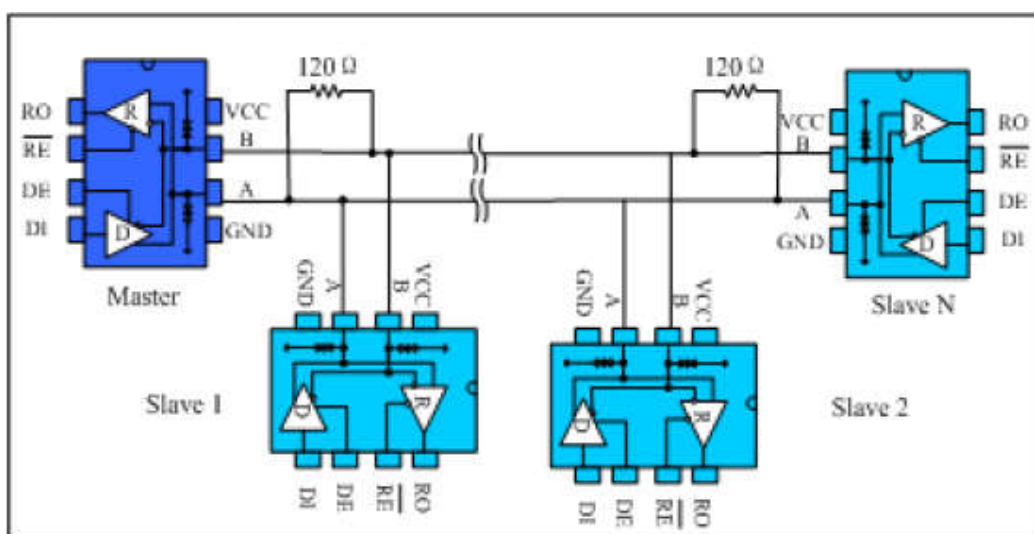

Fig. 9 Bus-type RS485 half-duplex communication network
4.1 Bus networking: The MAX3485E RS485 transceiver is designed for bidirectional data communication on multi-point bus transmission lines. Figure 9 shows a typical network application circuit. These devices can also be used as linear repeaters with cables longer than 4000 feet. In order to reduce reflections, terminal matching should be done at both ends of the transmission line with their characteristic impedance, and the length of the branch wires other than the main line should be as short as possible.